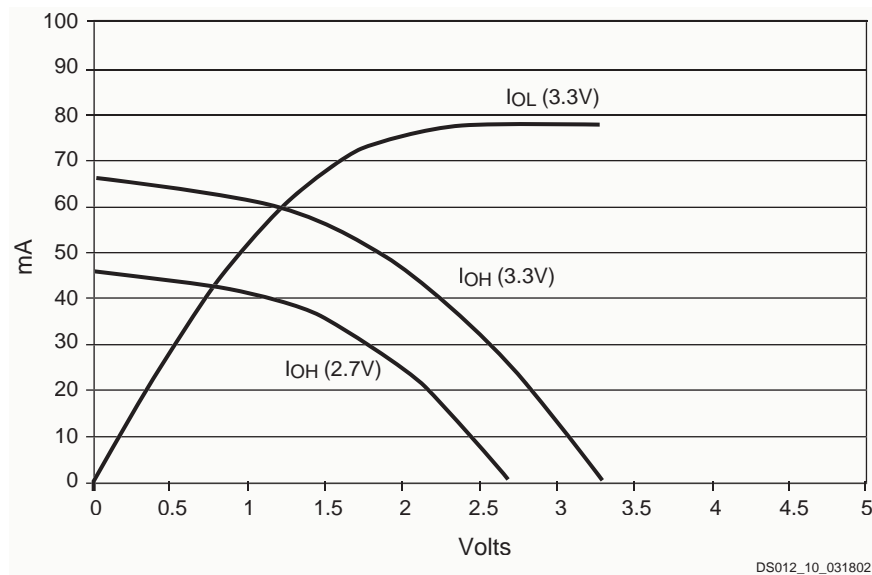

Figure 2: Typical I/V Curve for the XPLA3 Family, 3.3V, 25°C
1. See Figure 2 for output drive characteristics of the XPLA3 family.